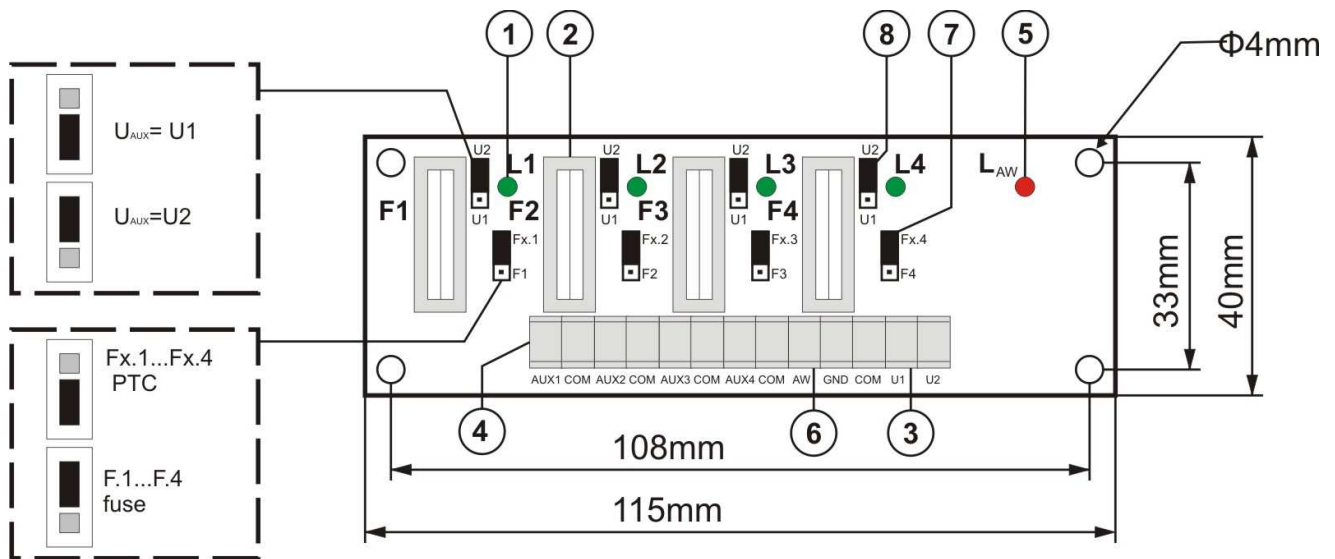
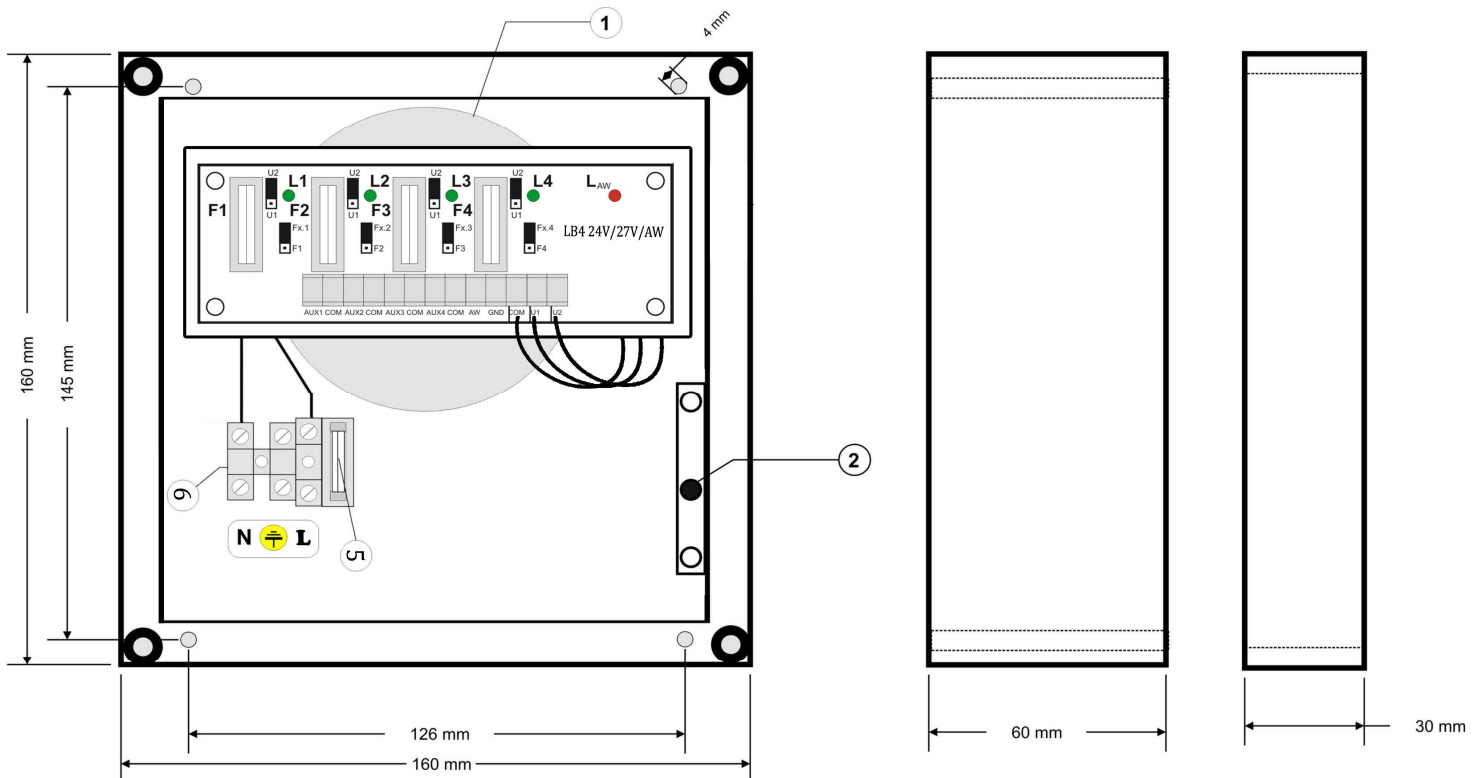

Fig.2. View of the LB4/24/27/AW fuse block.
Fig.3. View of the power supply.
1.3. Description of elements and connectors of the power supply (table 1, table 2, fig.2, fig.3).
| Element No. [Fig. 2] | Description of LB4/24V/27V/AW elements [fig. 2] |
| Element No. [Fig. 3] | Description |